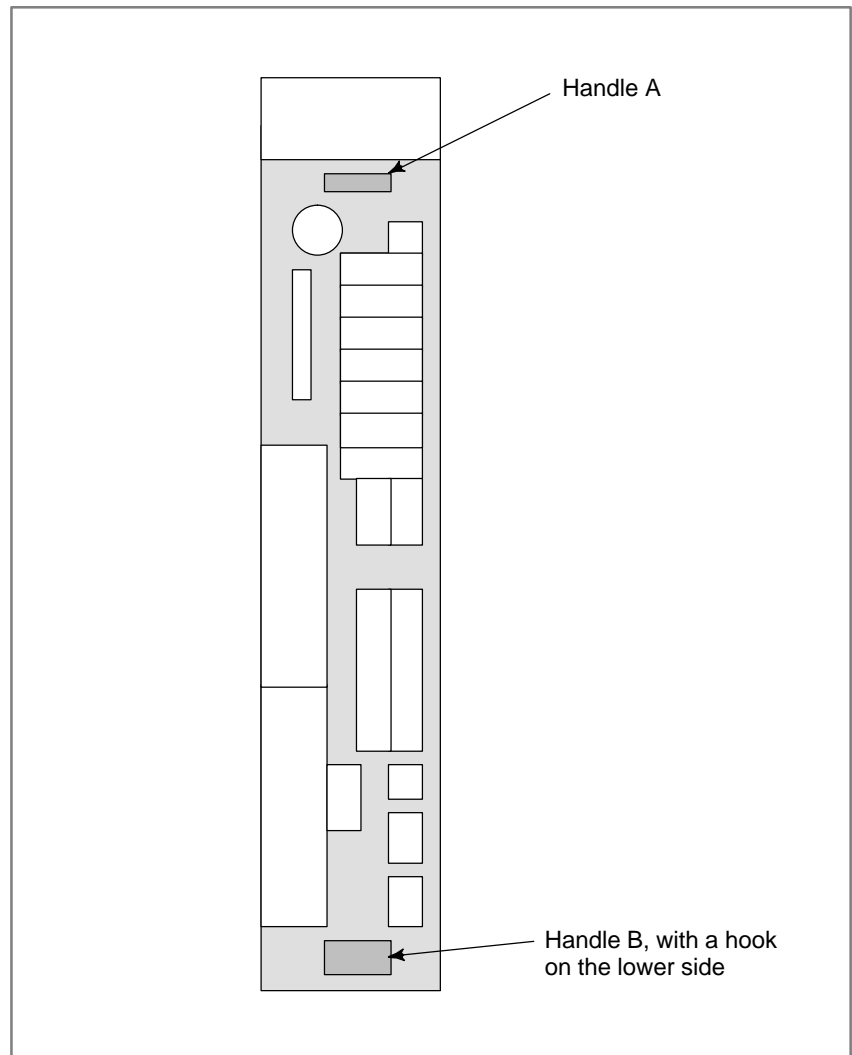

Fig. 2.6.1 Base printed-circuit board handles
- 3) Hold the base printed-circuit board by grabbing its handles, A and B. (See Fig. 2.6.1.)